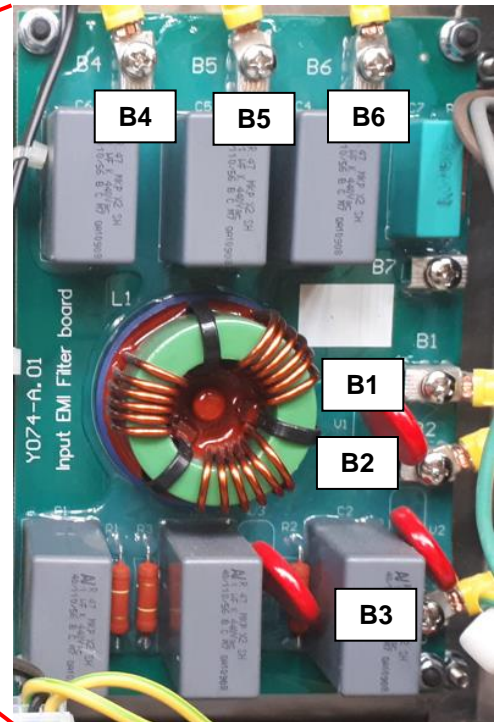

Figure 2a
5. Using the multimeter (ohm mode) perform the tests as indicated in **Test Table 1**. See **Figure 2a** for correct test points location.